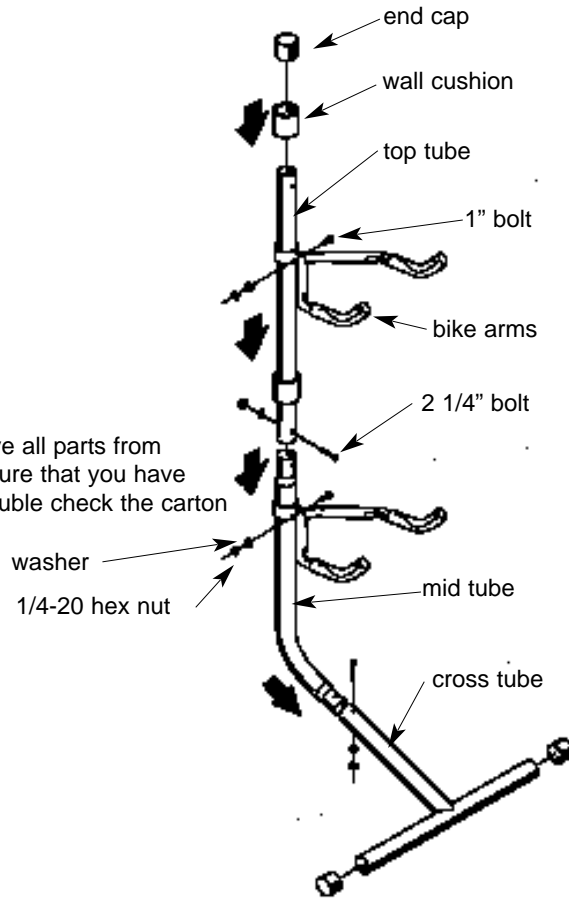

Figure 1
1 RACK ASSEMBLY: (fig. 1)
- Follow first four steps in assembly instructions listed in fig. 1.
- Follow first four steps in assembly instructions listed in fig. 1 for both units.